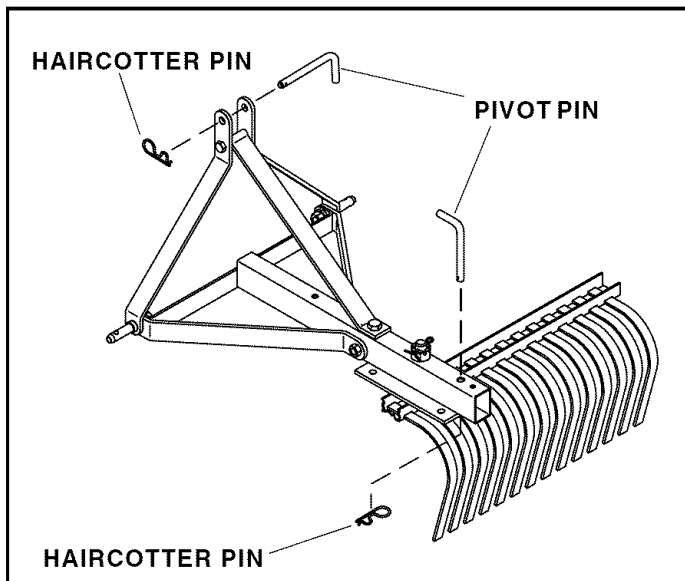

FIGURE 8
- Lock the rake assembly to the mast assembly by installing a pivot pin at the rear of the mast assembly. Secure the pin using a haircotter pin through the hole in the end of the pivot pin. See figure 8.
- Install a pivot pin through the upper end of the mast sides. Secure the pin with a haircotter pin through the hole in the end of the pivot pin. See figure 8.